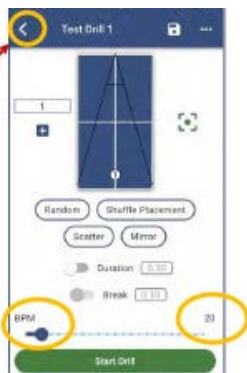

Figure 3-5
3. Move the Balls per Minute (BPM) slider to 20 (Figure 3-5).
1. Return to the list of Drills, by pressing the Back button on the top left of the Test Drill 1 screen (Figure 3-5).